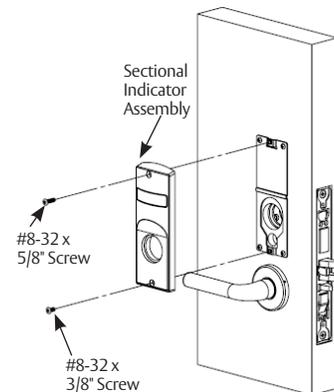

Figure 29
3. Secure indicator assembly to door with two (2) machine screws. (Figure 29)